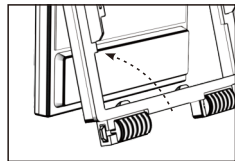

Fig. 2
- Lift up the Len Filter and push the filter against the frame. (See Fig. 2)